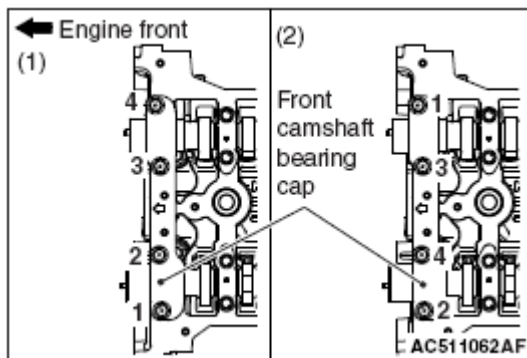

Fig. 49: Identifying Front Camshaft Bearing Cap Mounting Bolts Tightening Sequence
1. Install the front camshaft bearing cap to the cylinder head, and temporarily tighten the front camshaft bearing cap mounting bolts to the specified torque in the order of the (1) in **Fig. 49**
2. Tighten the front camshaft bearing cap mounting bolts again to the specified torque in the order of the (2) in **Fig. 49**